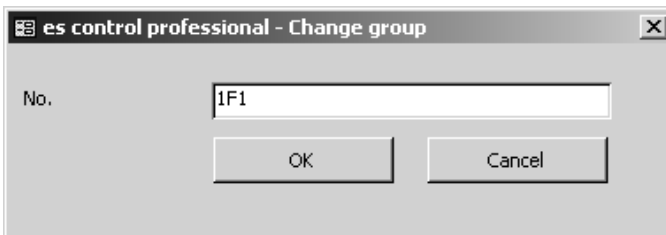

Figure 6.22: "Distribution" window, Change group
- ▶ Type e.g. “1F1”, confirm by clicking the “Enter” key. Es control 0100 professional numbers then all current circuits from 1F1 through 1F7 (please refer to Figure 6.22).